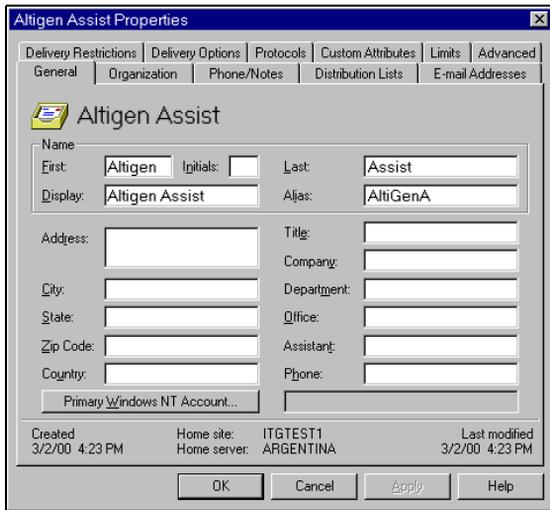

Figure 8. Adding a mailbox to Exchange Server
3. Click **Primary Windows NT Account** and in the dialog box, select `<Domain>\AltiGen_<AltiservSystemName>` (e.g. `AltiGen_telemystem`). After setting the primary NT account, your dialog box should look the example that follows (see Figure 8). Click **Apply** to create the mailbox.